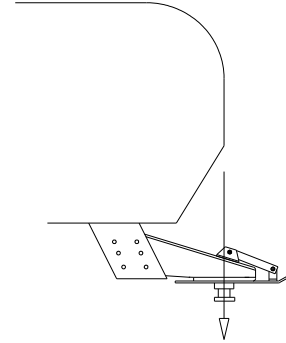

Figure 1
2. The trailer king-pin must be kept even with /or forward of the foremost point of the trailer. See "Caution" and "figure 1" on pg. 3.
3. Trucks with bed liners may need a tall Mounting Post. See "NOTE" under item 13 of "Drilling the Bed" on pg. 10 for detail.
4. Read these instructions completely and follow them accurately. Should you have any questions, please call the factory at (800) 443-2307 for installation assistance.
As a general rule, for the SuperGlide hitch to maintain proper clearance to the truck, the leading edge of the trailer (measured at the corner) should be even with the center of the king pin. (Figure 1). Most truck trailer combinations will allow 102" wide trailers if the king pin is located as described. Narrower trailers will allow the king pin to be "tucked" under the trailer over hang to some extent. Call PullRite technical support with trailer width, make and year of truck and distance the king pin is from leading edge of the trailer. 1-800-443-2307
Using a trailer that has a long rear slope to the King Pin Box Hangar, "B" in (Figure 1), may cause damage to the trailer or truck bed during turns. Dimension "B" must be less than one half the width of the inside top edges of the bed. Please call PullRite technical support, 1-800-443-2307, if more information concerning this problem is needed.